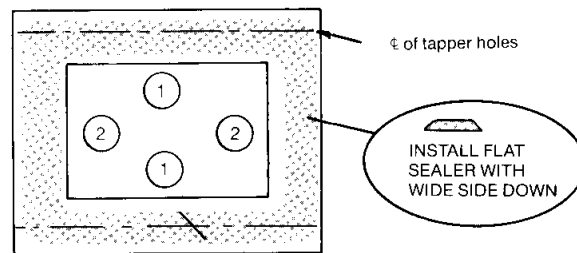

Figure 4.
- 2) Apply the 25mm flat (trapezoidal cross section) tape sealer around the periphery of the top flange of the casing section (See Figure 4). Apply tape with the wide side down over the centreline of the taper holes and the centreline of the taper holes and the centreline of the end flanges where there are no taper holes. The sealer should only be spliced along the flanges with the taper holes.